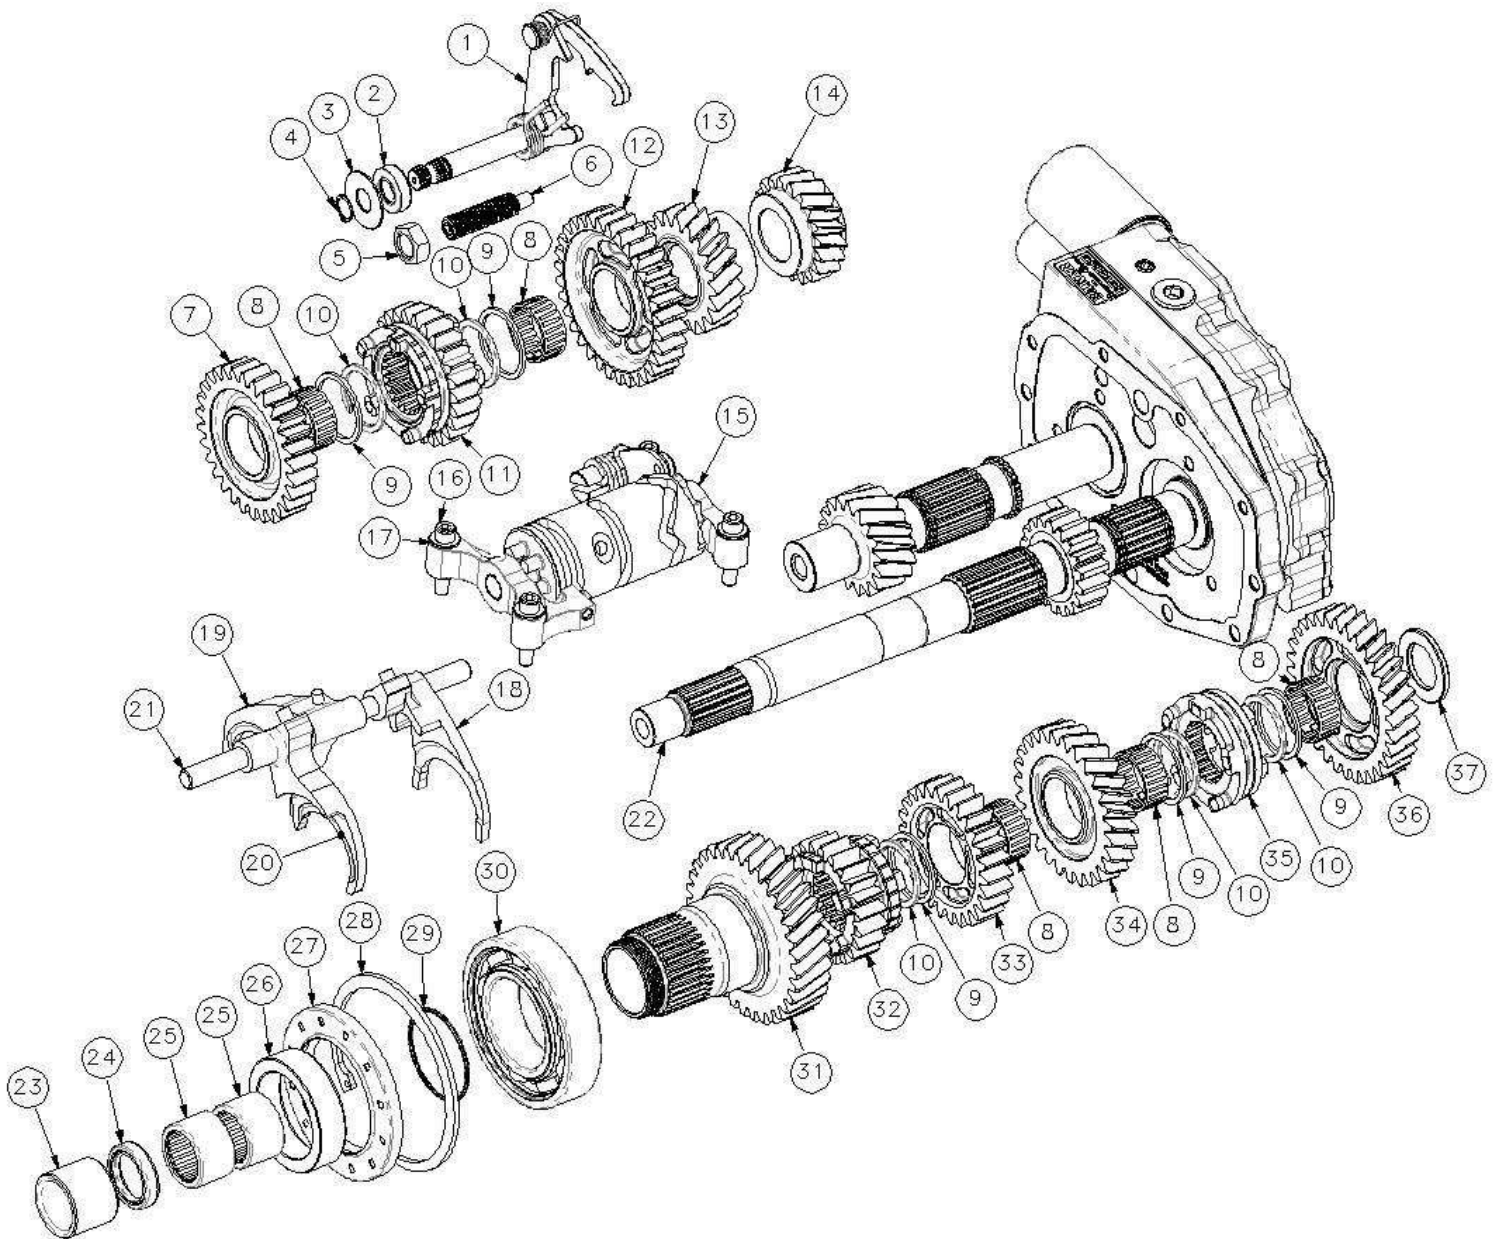

FIGURE 3
- 5) Set the mainshaft aside and start disassembling the countershaft by sliding 3rd gear (PN DD6-3C-1) into 2nd gear (PN DD6-2C-1) to gain the room to reach the snap ring (PN 11067A) holding 1st gear (PN DD6-1C-1) in place. You need to do this to be able to get a press tool around the shaft to press 4th (PN DD6-4C-1) and 5th (PN DD6-5C-1) gear off. (See Figure 3)